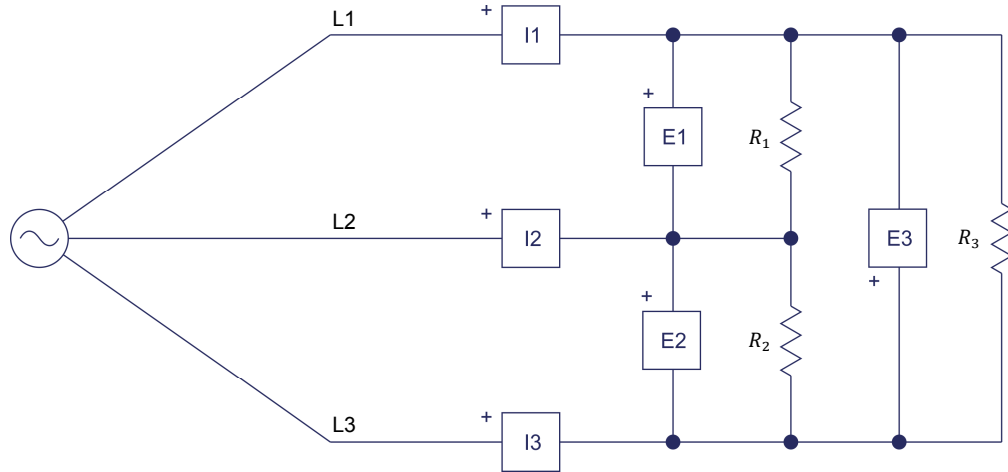

Figure 8. Line current measurements in the delta-connected, three-phase circuit.
31. Reconnect meter inputs *I1*, *I2*, and *I3* as shown in Figure 8 to measure the line currents in the delta-connected, three-phase circuit.
Measure and record below the line currents in the circuit of Figure 8, then turn the three-phase ac power source in the Power Supply off. Then, determine the average value of the line currents.